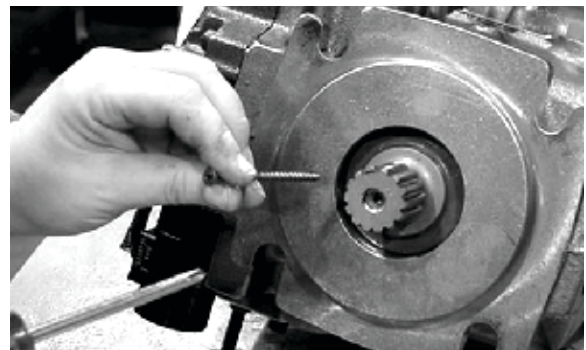

Figure 3. Install screw into hole
- ii. Use a 3 inch #10 sheet metal screw with the point blunted. Install the screw into the hole just far enough to pull the shaft seal out of its pocket (Figures 3, 4 and 5).